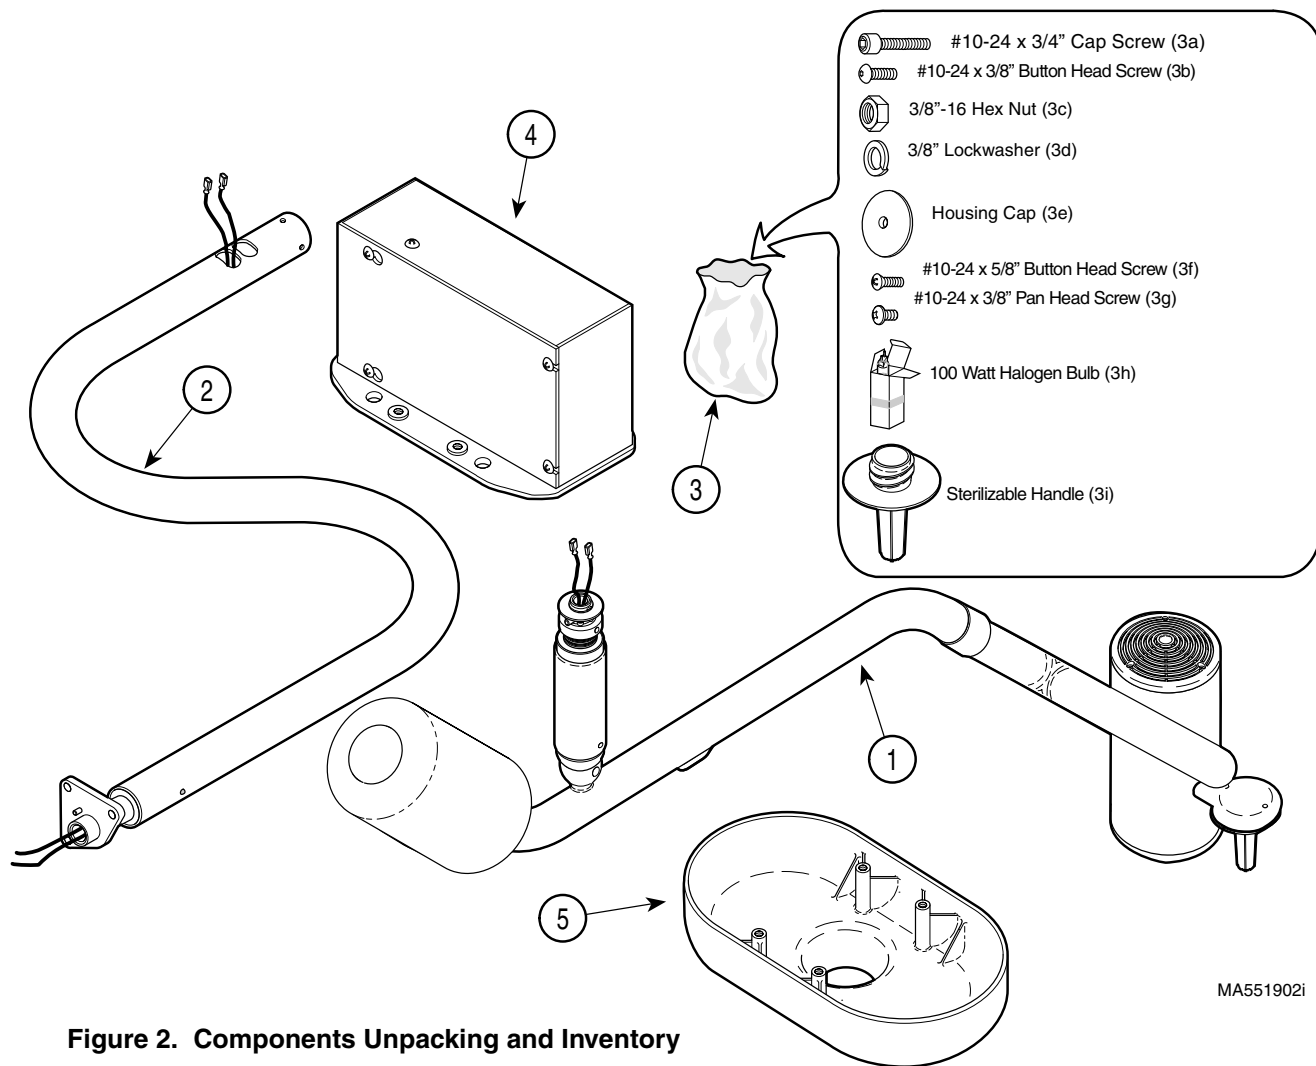

Figure 2. Components Unpacking and Inventory
Below is a list of all the items which should be included in the shipping box(es). The first quantity indicates the number of items which should be present for a single lighting assembly while the second quantity indicates the number of items which should be present for a dual lighting assembly (Refer to Figure 2).
(1) Cut banding and remove box lid from box.
- (2) Remove one / two cross tube/lighthead assembly (1, Figure 2) and inspect.
- (3) Remove one/two down tube assembly (2) and inspect.
- (4) Remove one/two bag(s) (3) and inventory contents; the following items should be included: